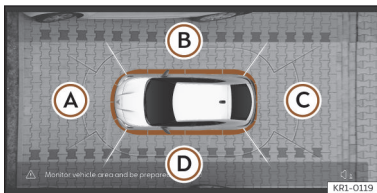

Fig. 163 Display of the Area View system: aerial view.
>>> Fig. 163:
The aerial view is generated by combining the images from all the cameras >>> Fig. 163. The top view can be selected by pressing the vehicle inside the zone.
Press on the different areas >>> Fig. 163 (A) to (D) of the top view or reduced top view to select and set the corresponding view, which will be highlighted in orange.